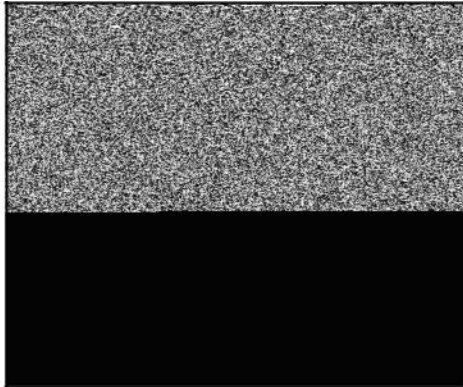

Figure 32
2. Install DC Shunt #19359 (D, Figure 32) on negative (-) battery terminal.
3. Insert RED test lead (A) into V Ω receptacle in meter and connect to red post terminal on shunt (E).
4. Insert BLACK test lead (B) into COM receptacle in meter and connect to black post on shunt (C).